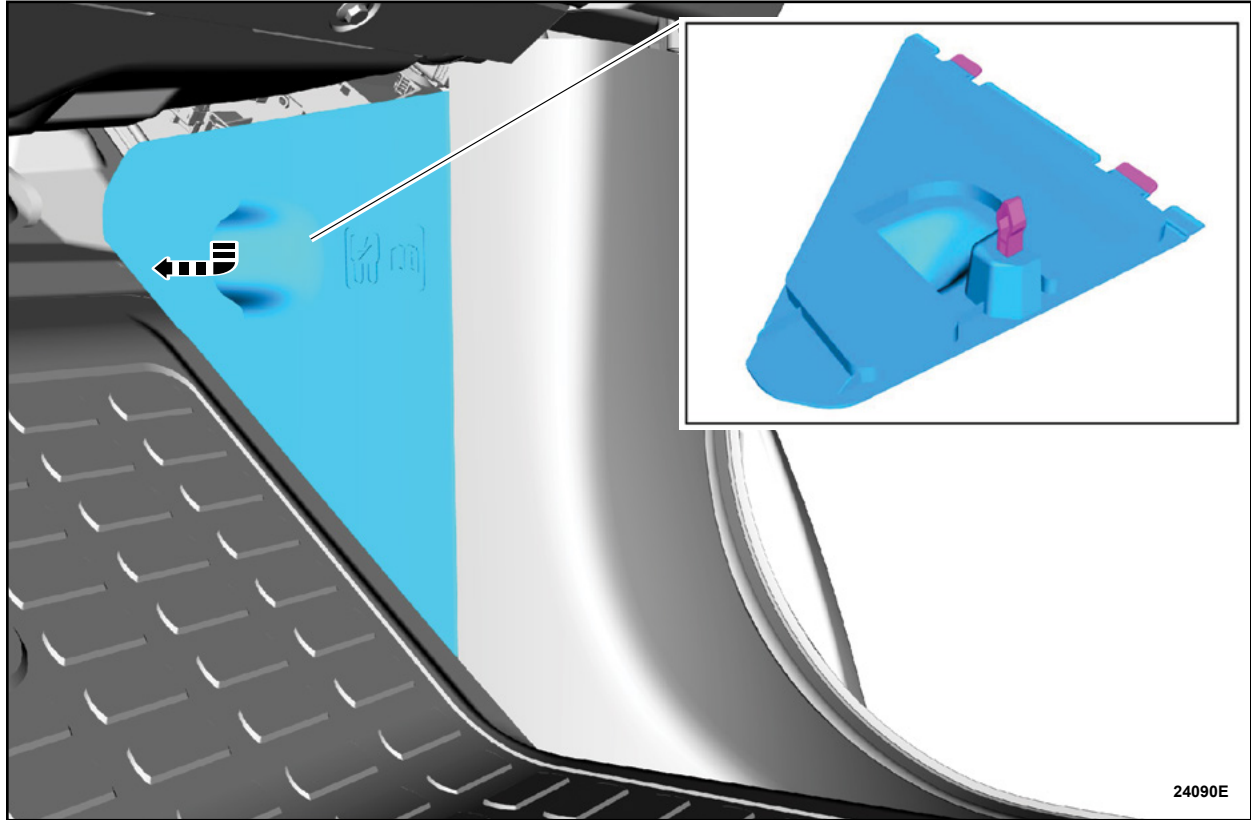

FIGURE 3
3. Release the clips and remove the Body Control Module (BCM) access cover. See Figure 3.